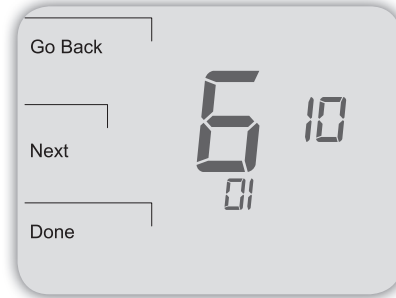

Figure 12.
3. In Service Menu 610, press **▲** / **▼** to select option "01," Heat Stage 1 (see Fig. 12).